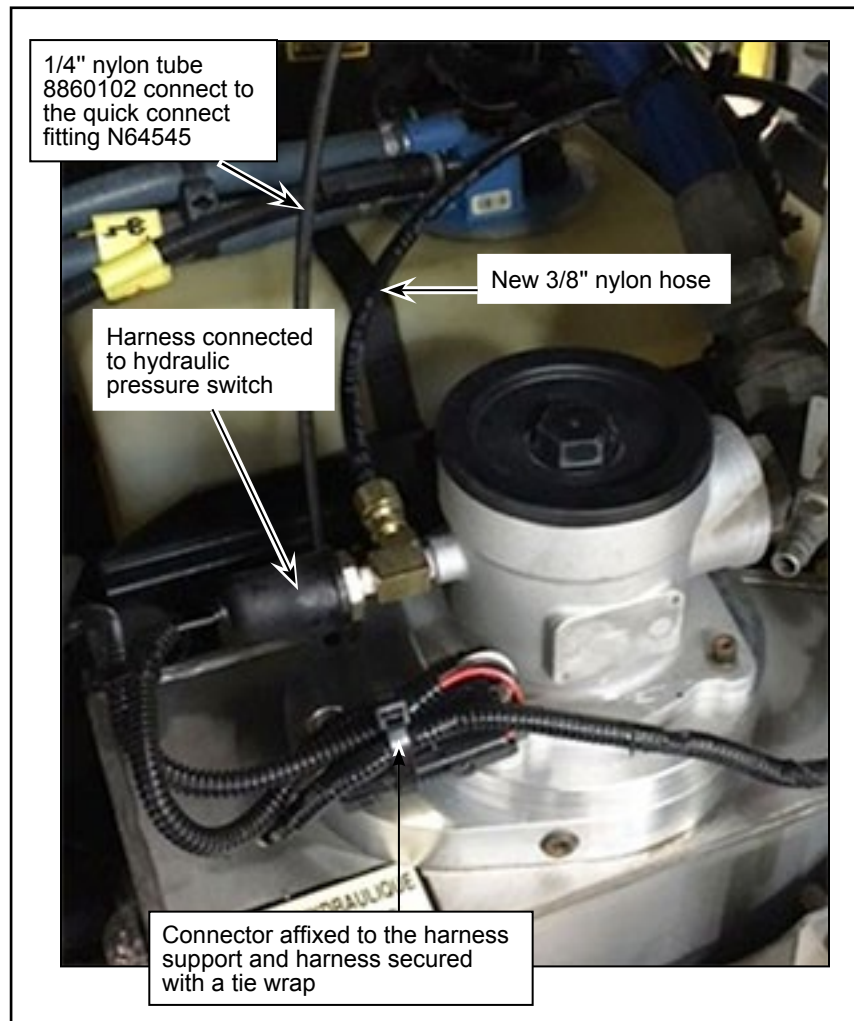

Figure 9 - Harness Installed on Filter Head
- 1.36. Install the harness support bracket on one of the filter head bolt. See Figure 9.
- 1.37. Connect the harness to the hydraulic pressure switch. See Figure 9.
- 1.38. Affix the connector to the harness support bracket and secure the harness using a tie wrap. See Figure 9.
- 1.39. Cut the excess length of the 1/4" nylon tube 8860102 and connect to the quick connect fitting N64545 installed on the bottom adaptor. See Figure 9.